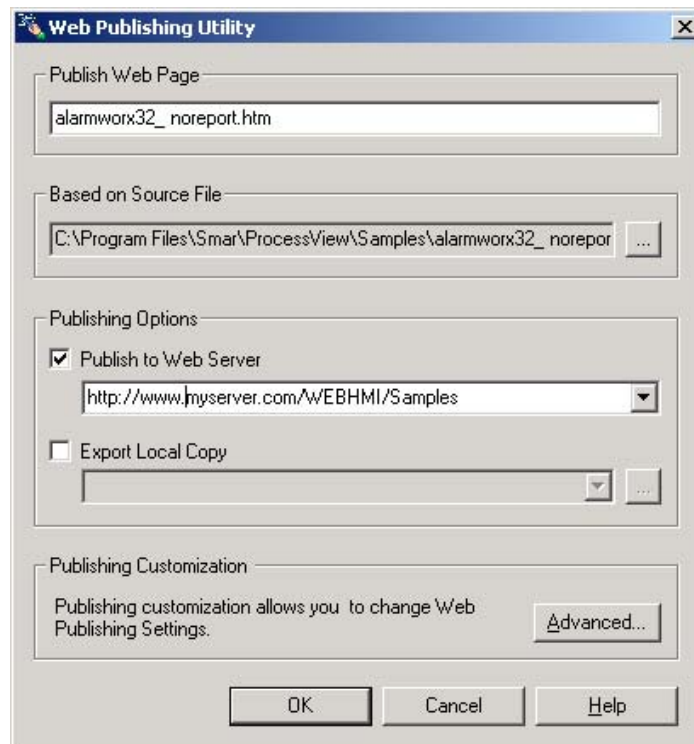

Figure 4.9. Publish to Web Server Location Specified in Web Publishing Wizard
3. In the **Publishing Options** field, check the **Publish to Web Server** check box and type in the URL address of your Web server with the complete directory indicating where you want to publish the HTML file, as shown in **Figure 4.9**. In the sample Web server URL address shown below ("http://www.myserver.com/WebHMI/Samples"), the various components are:
4. The Web server URL address now appears in the Web Publishing Wizard dialog box in the **Publish to Web Server** field of the Web Publishing Wizard, as shown in Figure 4.9.